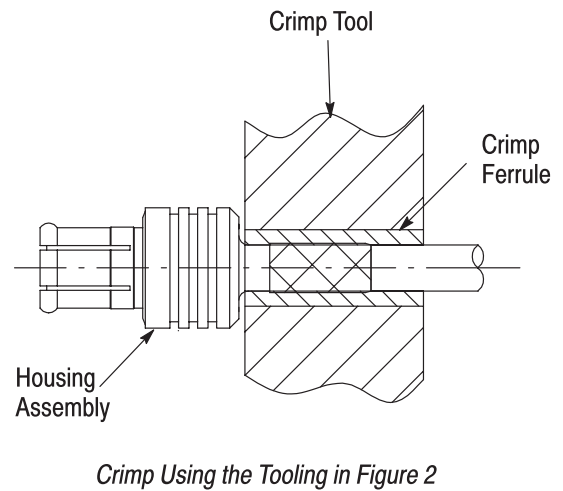

Figure 5
6. Crimp using the tooling listed in Figure 2. Refer to Figure 5.